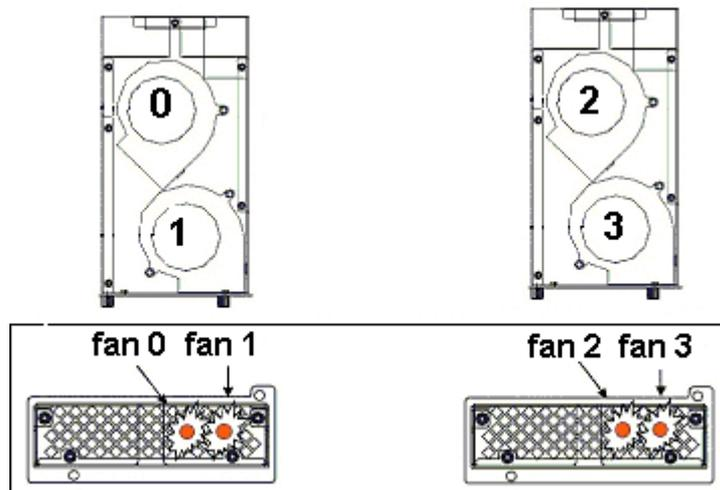

Figure 3-6: Cooling Fan Module LEDs and Cooling Fan Locations
Each cooling module has two (2) red LEDs on the back. Each LED corresponds to a single fan within the cooling module. (See *Figure 3-6*)